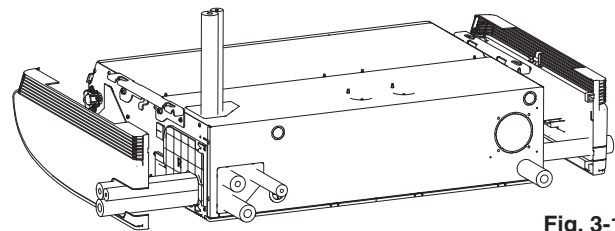

Fig. 3-18
- The positions of the refrigerant tubing connections are shown in the figure below. (The tubing can be routed in 3 directions.) (Fig. 3-18)
* If the drain hose is routed through the left side, refer to Fig. 3-18, and follow the procedure above to install the hose. Reattach the rubber stopper removed earlier onto the right side.